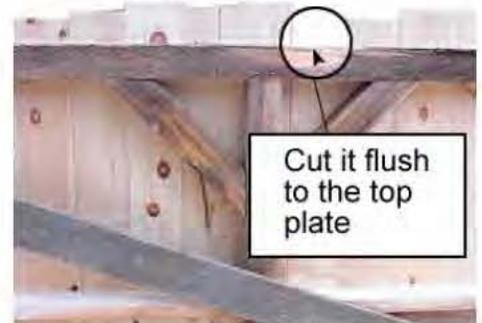

Figure 1
**Step 1.** Install rear wall siding. If you are working from a kit, the siding is pre-cut to length and should sit flush with the top plate beam. We use 1x12 rough cut pine boards. If you are using your own material, it is possible to run the siding wild along the top and cut in place. Figure 1.
**Step 4.** Trim the siding flush with the top plate as in Figure 1.